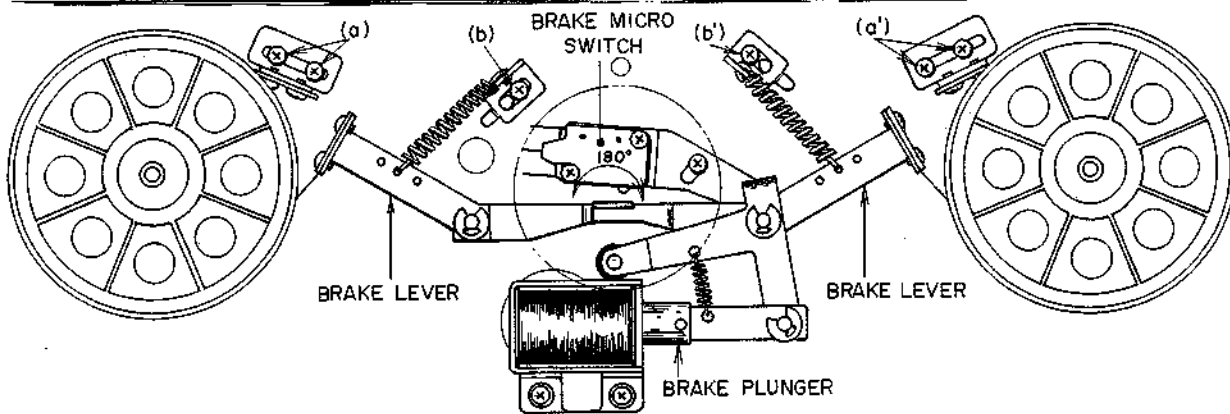

Fig. 27
5. BRAKE BAND POSITION ADJUSTMENT AND BRAKE TENSION ADJUSTMENT (Refer to Figs. 27 to 29)